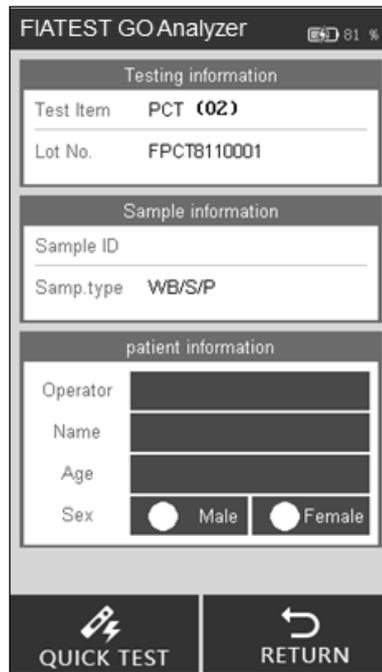

Fig 28
Step 3: Tap "QUICK TEST" or press the home button to switch to the testing interface. (Ref Fig 28)